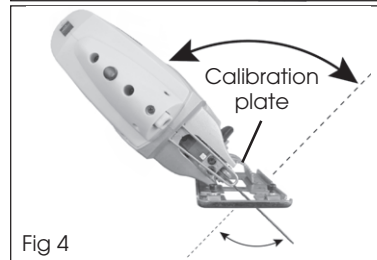

Fig 4
3. There is a calibration plate on the base plate to assist you in selecting the correct angle. See Fig 4.